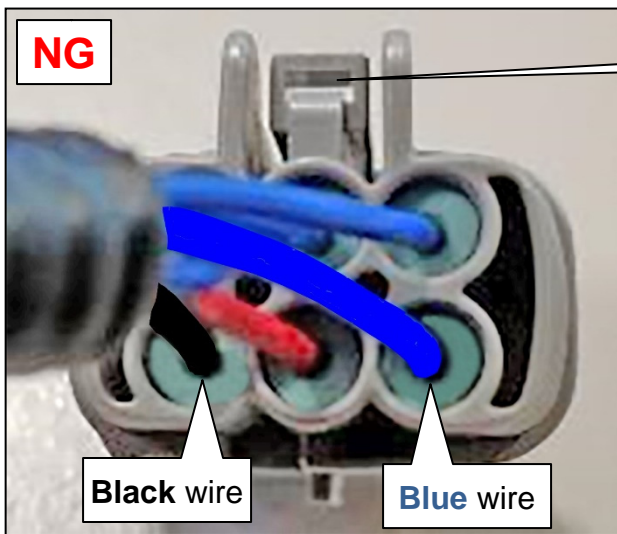
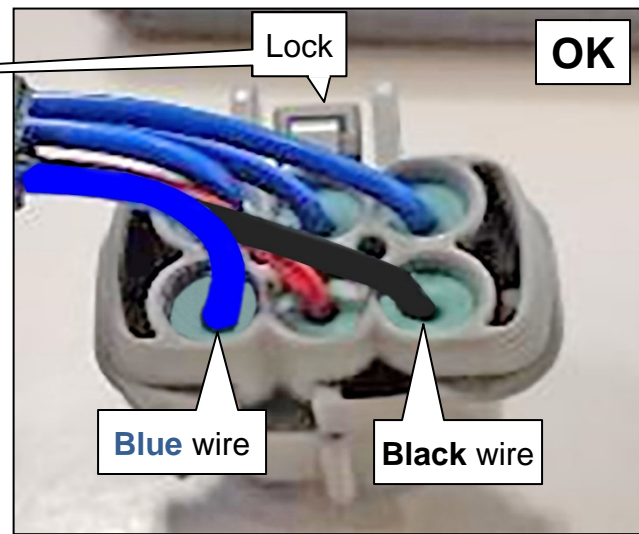

Figure 10
Figure 11
13. Remove the terminals of the **blue** and **black** wires from the combination lamp harness connector (see Figure 10 and 11 for selecting the correct **blue** wire).
HINT: The color of the **blue** wire in Figure 10 and Figure 11 is enhanced for easier viewing. Normally, it is the same shade of **blue** as the other **blue** wires.